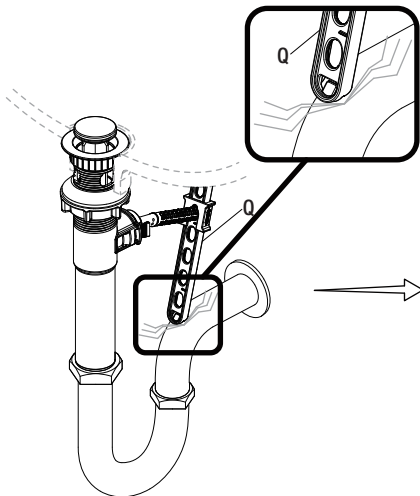

Fig. 1
- If the pop up lift rod strap (Q) is interfering with your installation, as shown in Fig. 1, the lift rod strap (Q) can be cut shorter.